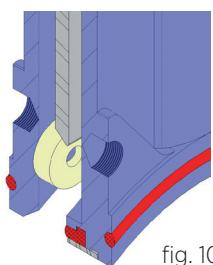

fig. 10
3. Loosen all the screws which attach the body (1) to the cover (2).
4. Remove the actuator system, cover (2) and gate (4) of the body (1).
5. Remove the seat sealing joint (18) between the cover (2) and the body (1) and clean its accommodation.
6. Fit a new seat sealing joint (18) with the same dimensions as the old one.
8. Make sure the seat sealing joint (18) is properly positioned between the cover (2) and the body (1) and introduce the assembly of the gate (4), cover (2) and actuator system in the body (1).
9. When introducing the gate in the body, take care that slides remain in their position (Fig. 10). Also make sure that the seat sealing is not damaged.
10. Carefully tighten the screws of the cover (2) crosswise.
12. Subject the valve to pressure in the line, checking that there are no leaks between the cover (2) and body (1), or between the rod (11) and the cover (2).